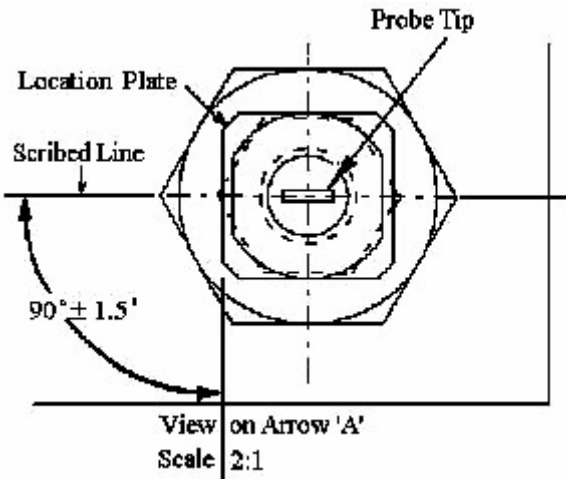

Figure 2: View on Arrow A
- 5.7 Check that the probe tip is aligned with the scribed line on the underside of the base plate see Figure 2.